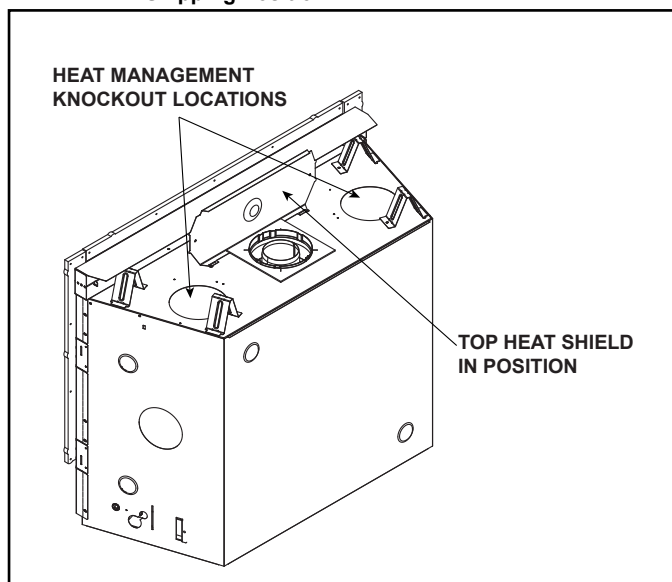

Figure 6.2 COSMO42-IFT-B B / COSMO36-IFT-B
2. Fold up top heat shield to 90 degrees as shown in Figure 6.2.
- Locate the two heat management ports on the top of the appliance. Either one or two Heat-Zone® -Gas Kits may be installed. See Figure 6.2. Remove the knockouts from the appliance with a tin snips.